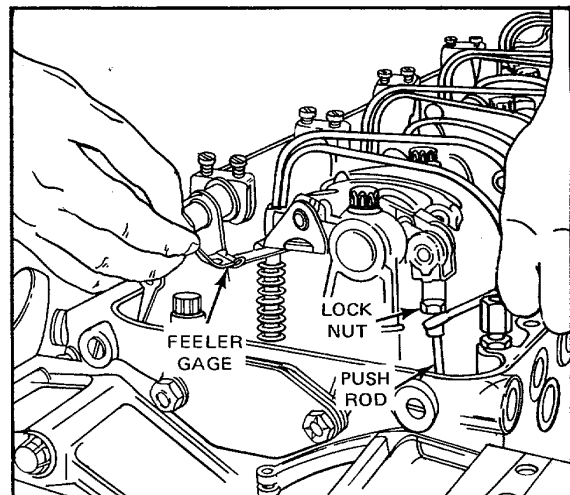

Figure 1. Adjusting Valve Clearance (Four-Valve Head)
5. Place a 0.027-inch feeler gage, J 9708-01, between the end of one exhaust valve stem and the rocker arm bridge (Fig. 1). Adjust the push rod to obtain a smooth pull on the feeler gage.